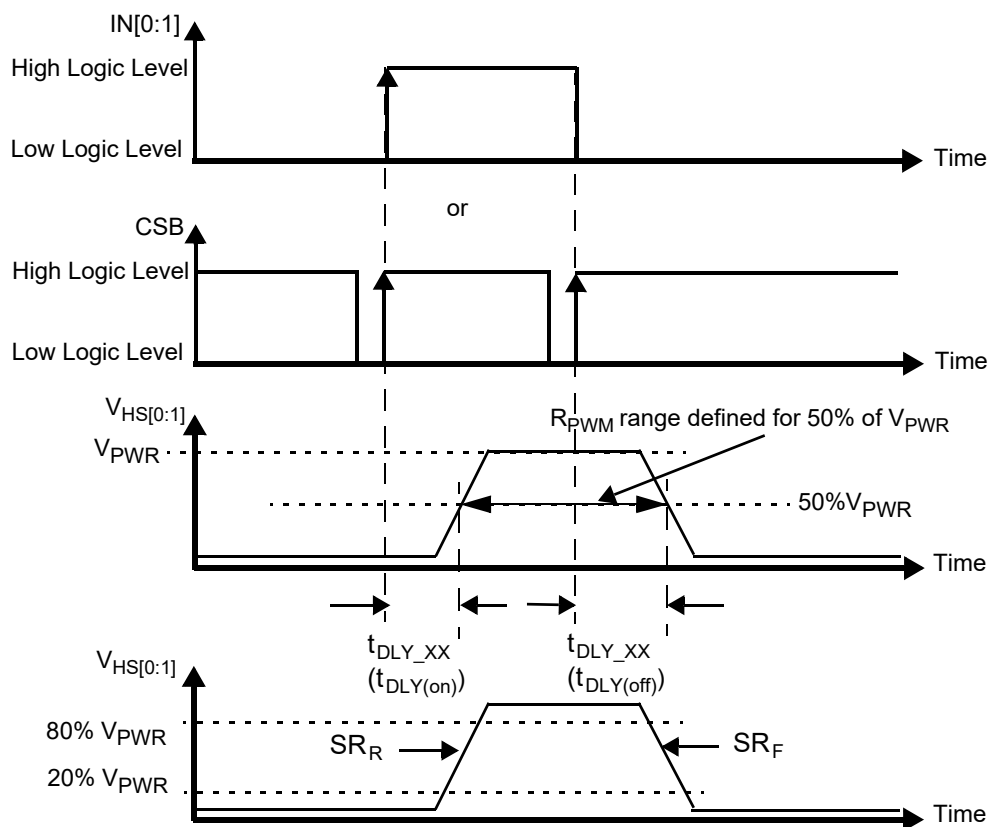
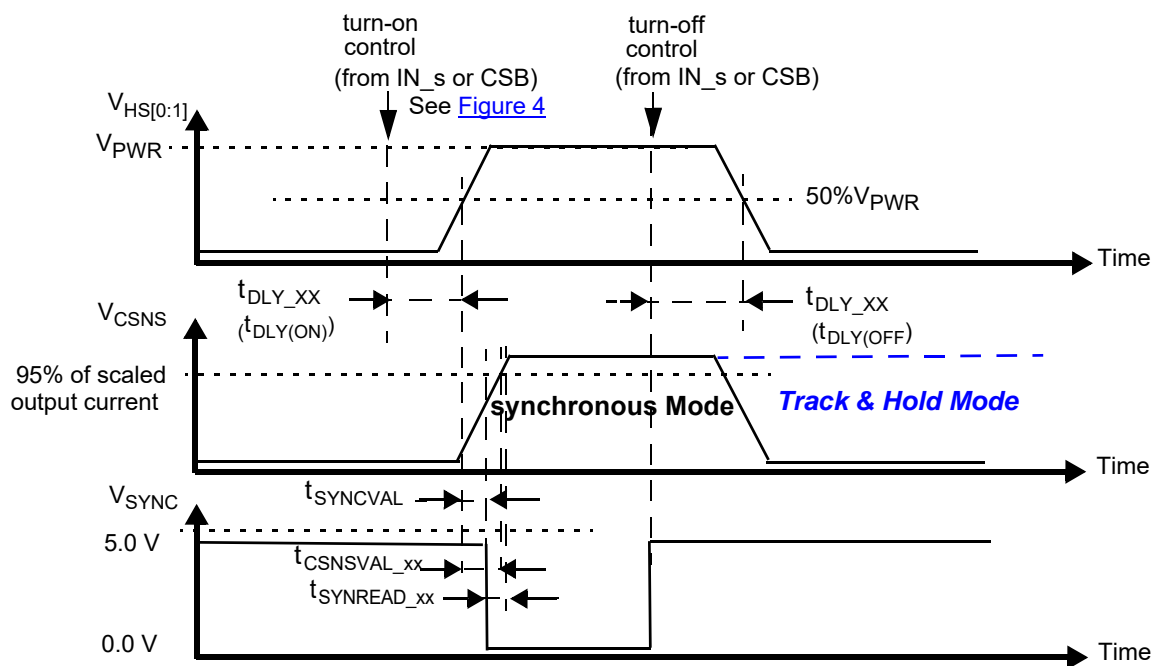

Figure 4. Output voltage slew rate and delay
Figure 9. Synchronous and Track & Hold current sensing modes: associated delay and settling times
27. Rising and Falling edge slew rates specified for a 20 % to 80 % voltage variation on a  $10.0\text{ }\Omega$  resistive load (see Figure 4).
29. Time required to switch off the channel after detection of overtemperature (OT), overcurrent (OC), SC or UV error (time measured between start of the negative edge on the FSB pin and the falling edge on the output voltage until  $V(\text{HS}[0:1]) = 50\%$  of  $V_{PWR}$ ).
30. Settling time ( $= t_{CSNSVAL\_XX}$ ), SYNC output signal delay ( $= t_{SYNVAL\_XX}$ ) and Read-out delay ( $= t_{SYNREAD\_XX}$ ) are defined for a stepped load current ( $100\text{ mA} < I(\text{LOAD}) < I_{OCLX\_A\_FOR\_CSNS\_RATIO\_S = 1}$ , AND  $300\text{ mA} < I(\text{LOAD}) < I_{OCLX\_A\_FOR\_CSNS\_RATIO\_S = 0}$ ). (see Figure 9 and Output current monitoring \(CSNS\)).
To synchronize current sensing with an external process, the SYNC signal can be connected to a digital input of an external MCU. SYNC is asserted logic low when the current sense signal is accurate and ready to be read. The current sense signal on the CSNS pin has the specified accuracy  $t_{SYNREAD\_XX}$  seconds after the falling edge on the SYNC pin (Figure 9) and remains valid until a rising edge is generated. The rising edge that is generated by the SYNC pin at the turn-OFF instant (internal or external) may also be used to implement synchronization with the external MCU. Parameter  $t_{SYNCVAL\_XX}$  is defined as the time between the instant at the middle of the output-voltage rising edge ( $HS[0:1] = 50\%$  of  $V_{PWR}$ ), and the instant at which the voltage on the SYNC-pin drops below 0.4 V ( $V_{SOL}$ ). The SYNC pins of different devices can be connected together to save micro-controller input channels. However, in this configuration, the CSNS function of only one device should be active at a time. Otherwise, the MCU does not determine the origin of the SYNC signal. The SYNC pin is open drain and requires an external pull-up resistor to  $V_{DD}$ .